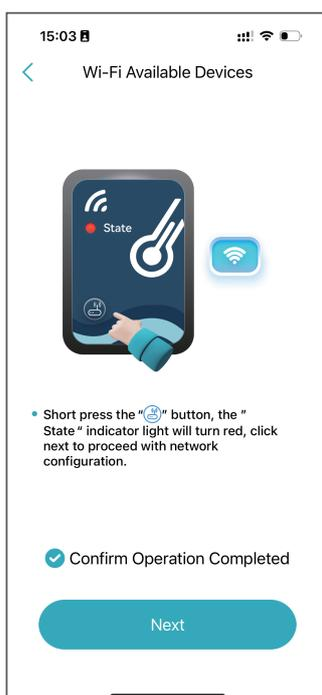

Fig.7 WIFI Module On interface
1. Follow the instructions on the page (Fig.7), press button on module and hold for 1s till two lights on then AP connection is activated;